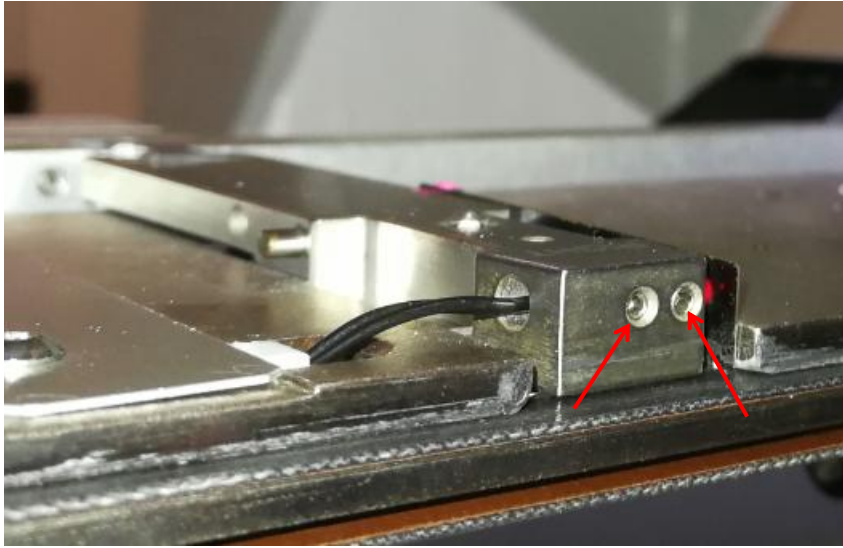

Figure 26 Set Screw Removal
7. Loosen 2 x Set Screws as shown in Figure 26